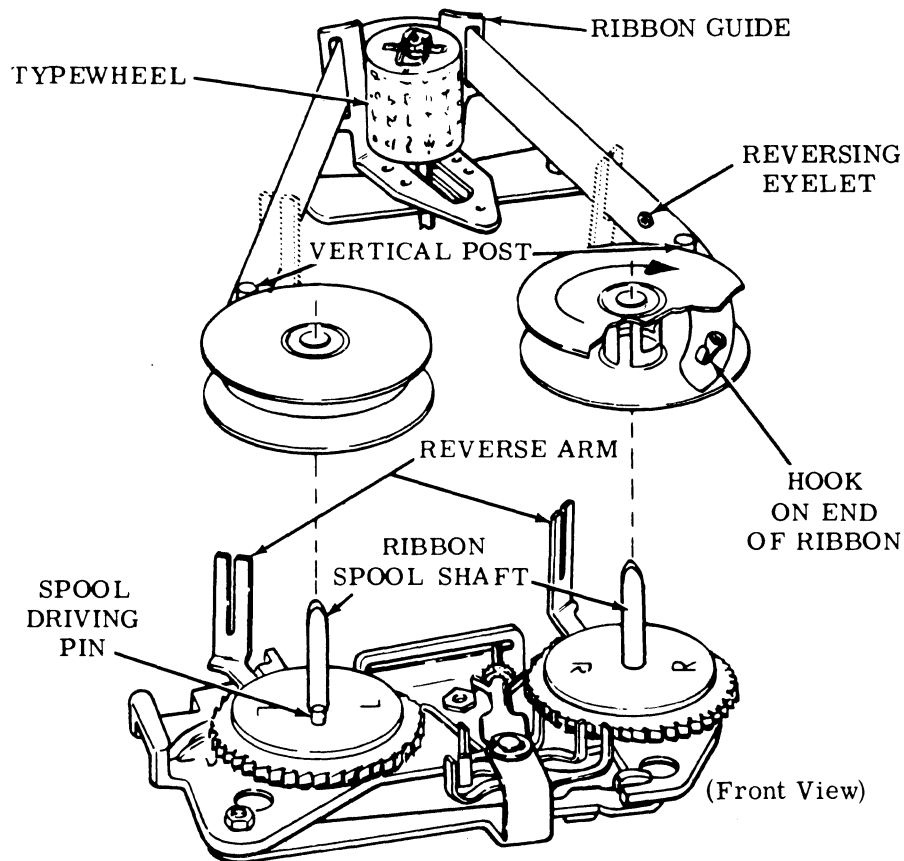

Figure 11 - Ribbon Threading
- 3.07 Figure 11 illustrates ribbon threading.